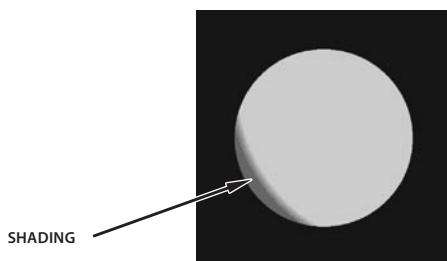

Figure 3-3. Shading
(1) Shading. If shading is present, you will not see a fully circular image (see Figure 3-3). Shading is very dark and you cannot see an image through it. Shading always begins on the edge and migrates inward eventually across the entire image area. Shading is a high contrast area with a distinct line of demarcation. Return the PVS-14 to the maintainer.